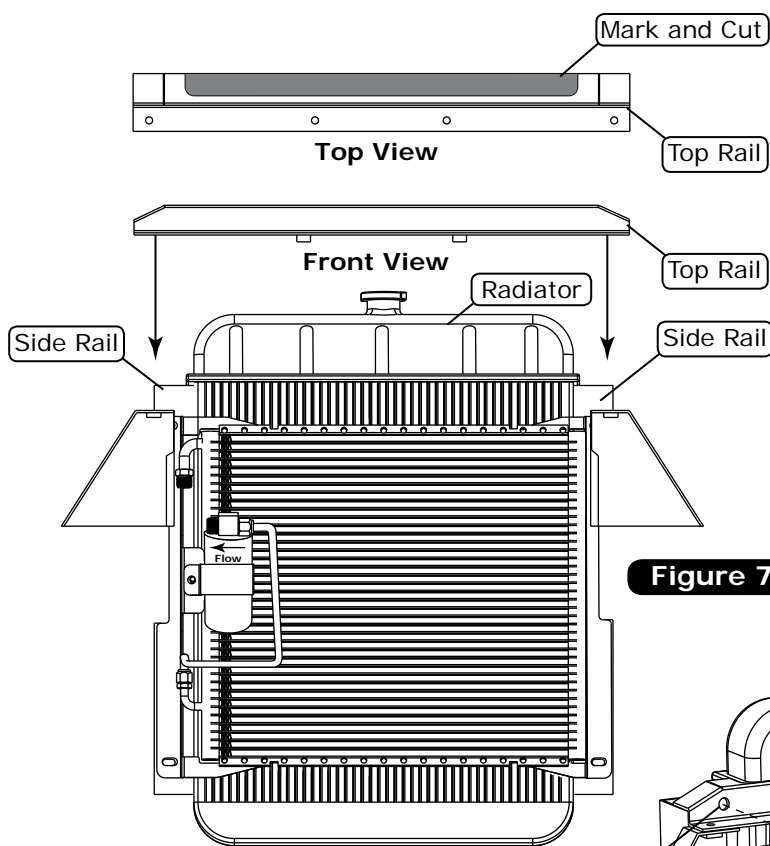

Figure 7
3. Cut a notch in the top rail as shown in Figure 7, below. **NOTE: Allow for clearance so the top rail and radiator do not touch as shown in Figure 7a, below.**